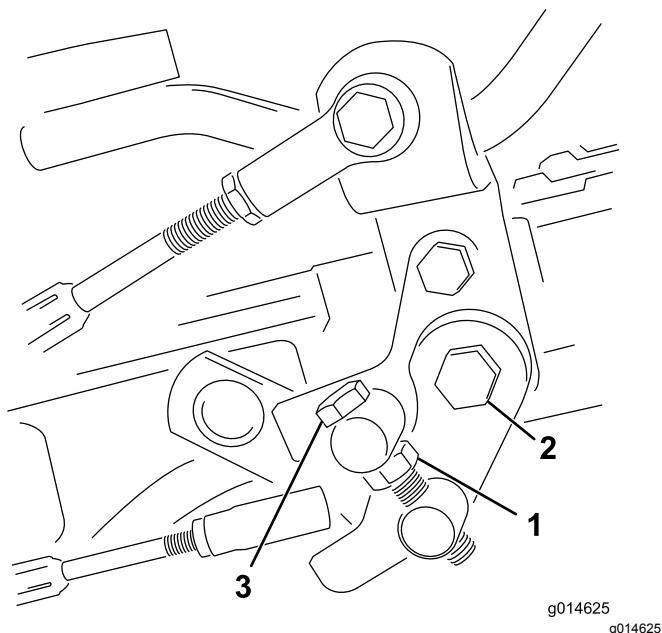

Figure 48
1. Loosen the jam nut on the trunnion bolt (Figure 48).
4. Tighten the jam nut on the trunnion bolt and the nut on the pedal pivot to lock the adjustment (Figure 48). Check the adjustment and adjust as required.